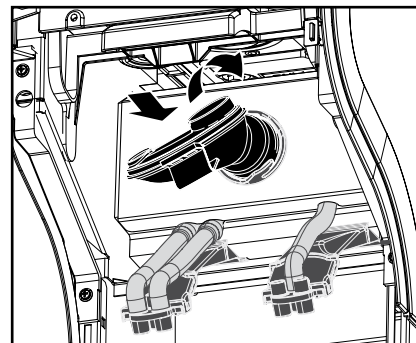

Fig. 29
- g. Insert the mixing bowl and sealing ring, then rotate it clockwise until it engages (fig. 29).